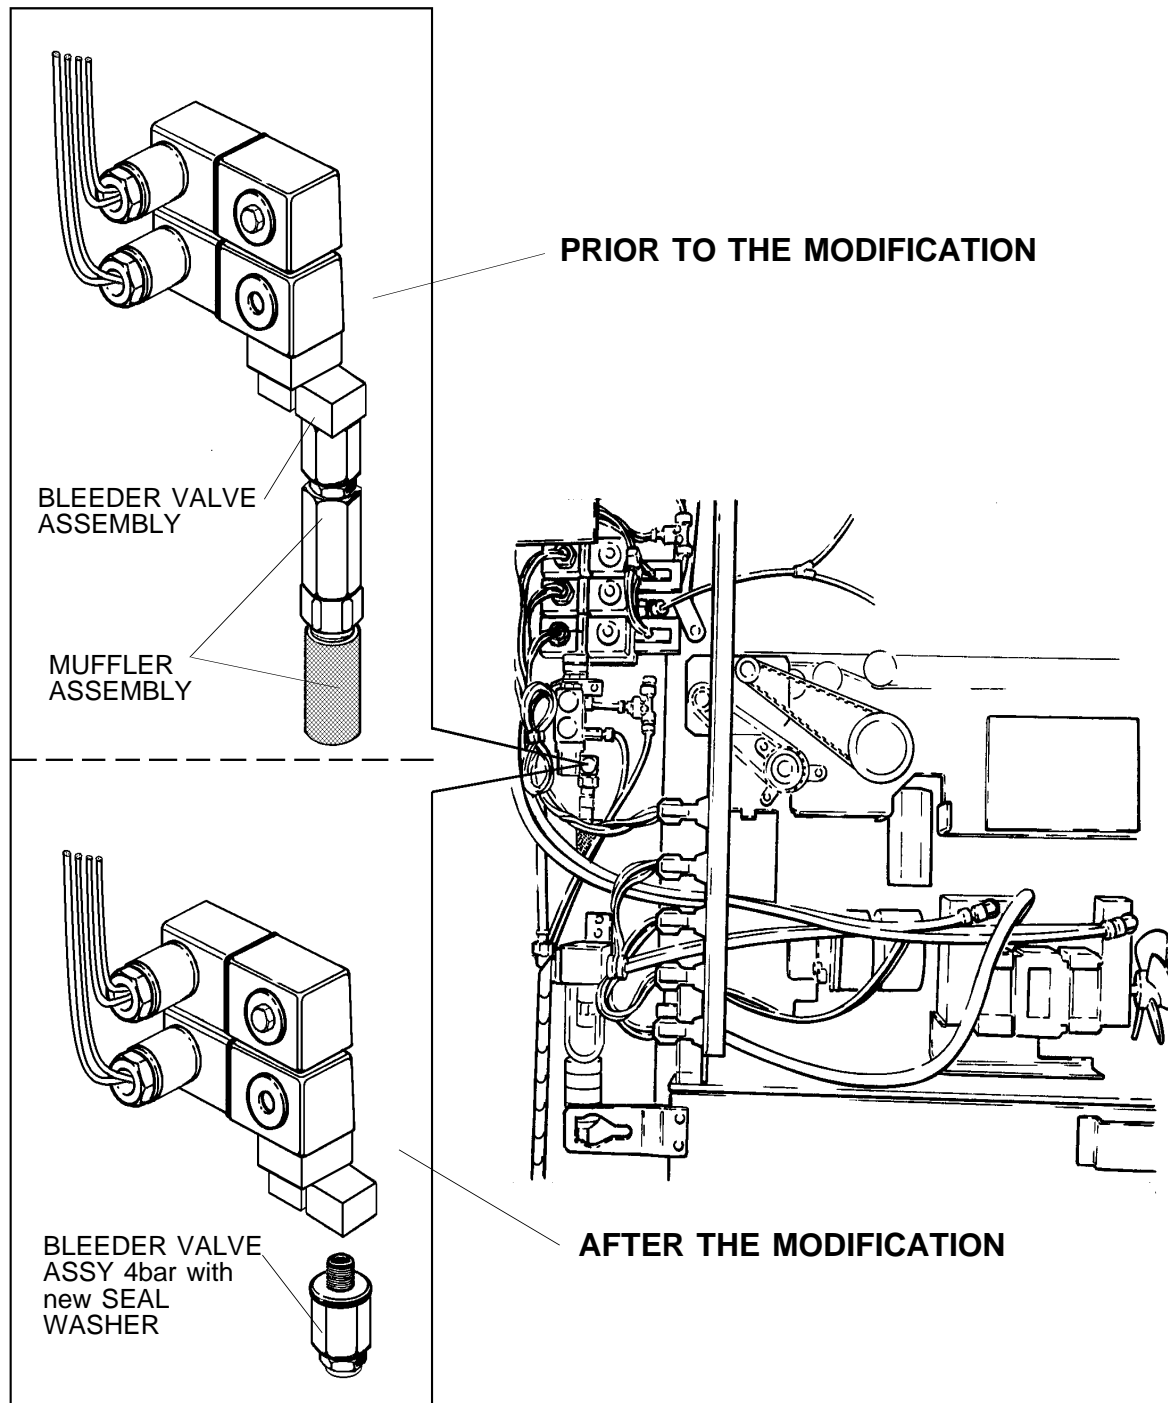

figure 12
3. Mount the BLEEDER VALVE ASSEMBLY 9227200 instead use a new SEAL WASHER (a MUFFLER is no longer needed) and tighten it. See figure 12.